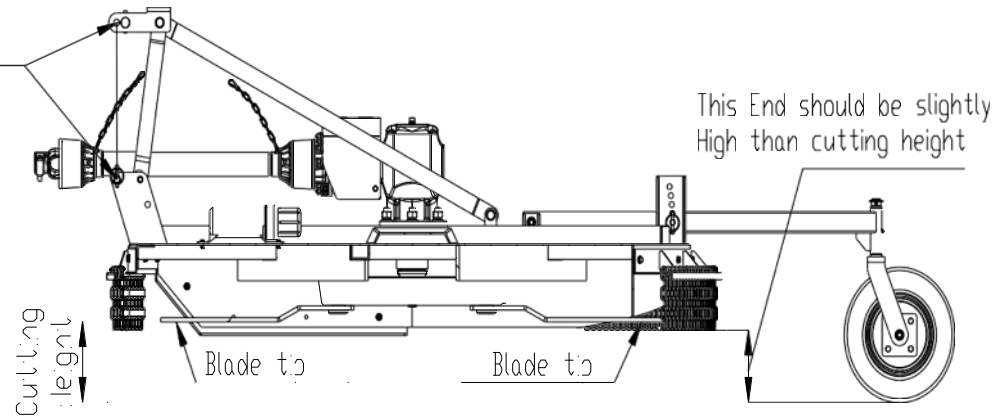

Figure 2-1: Cutting Height
2. The top center link typically is adjusted with the upper clevis pin vertically above lower than hitch pins. As show in Figure 2-1.
3. With gloves on, carefully rotate each blade tip to the position shown in figure 2-1.